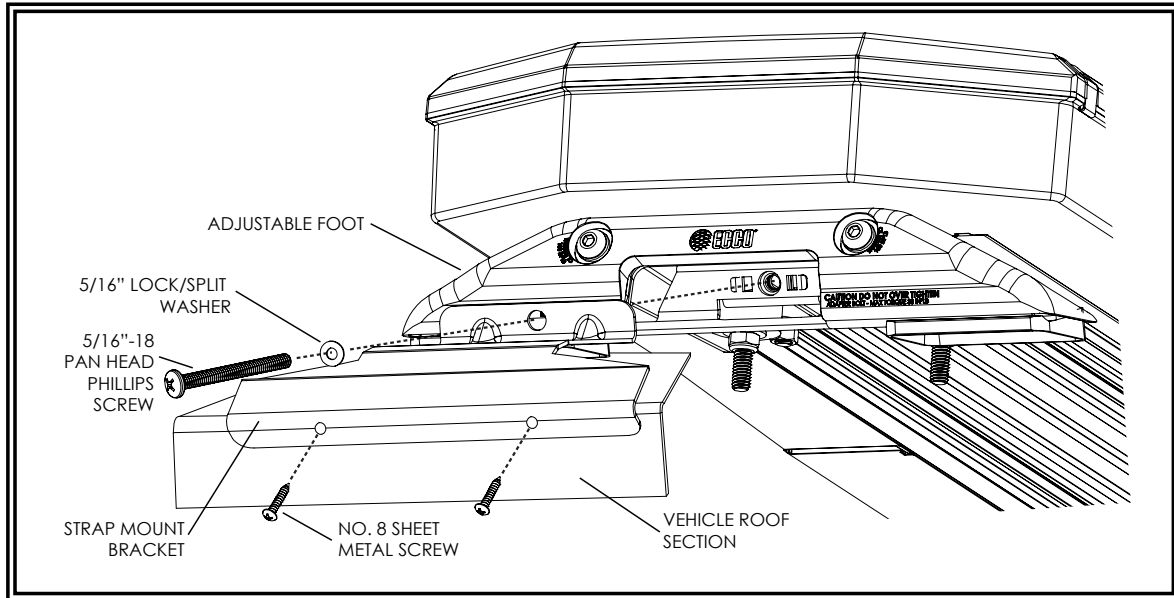

FIGURE 6
2. Center the lightbar across the vehicle and align the strap mount brackets to hook into the gutter of the vehicles door frame as shown in FIGURE 6.